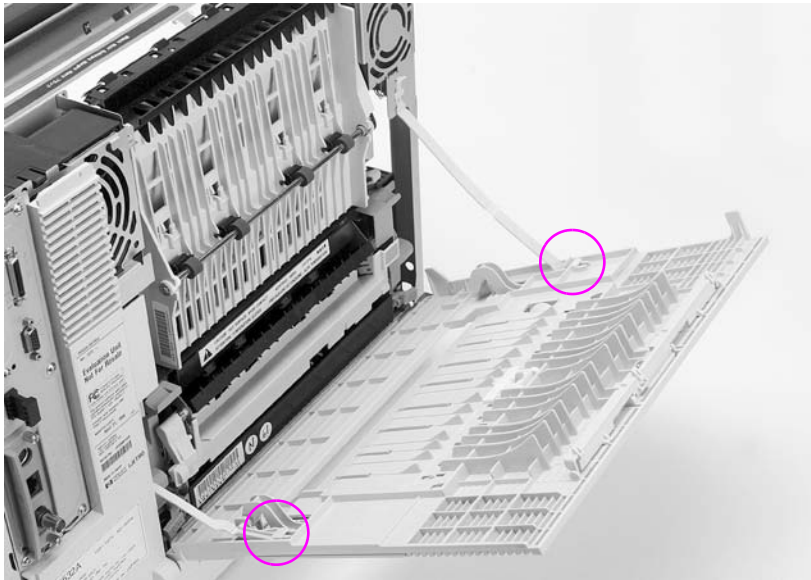

Figure 6-5 Rear door removal and replacement
- 2 Push in the retaining strap connectors to release the two plastic retaining straps attached to the inside of the rear door as shown in Figure 6-5.